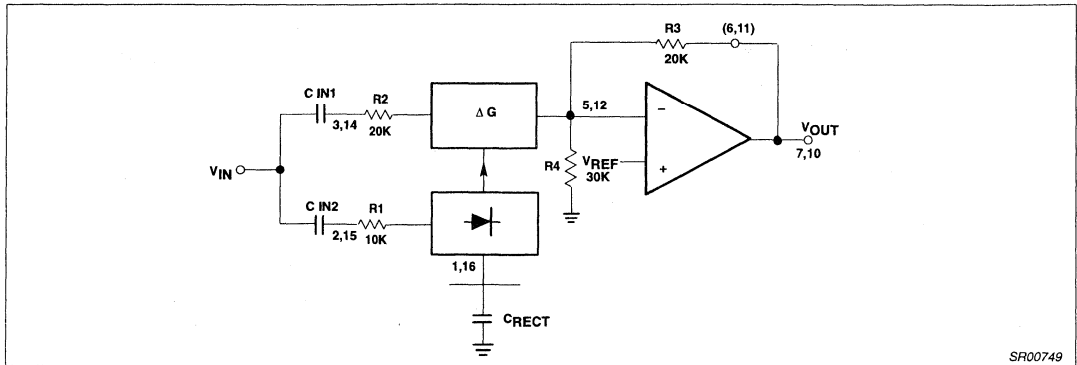

Figure 9. Basic Expander
1) DC bias the output half way between the supply and ground to get maximum headroom. The circuit in Figure 9 is designed around a system supply of 6V so the output DC level should be 3V.